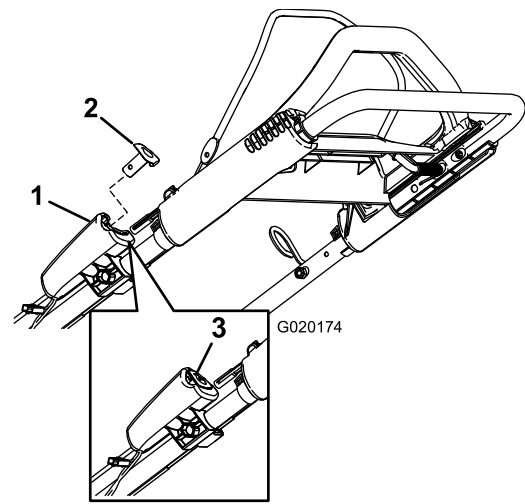
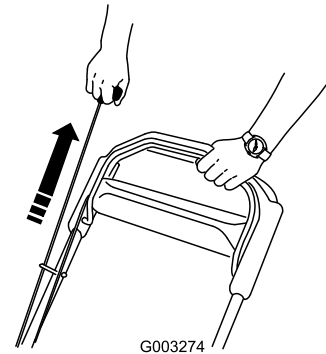

Figure 16
Figure 17
2. Push the electric-start button (electric start model only) (Figure 16) or pull the recoil-start handle (Figure 17).
Note: If the electric-start button has been removed, insert it in the electric starter; refer to Figure 16 (electric-start model only).